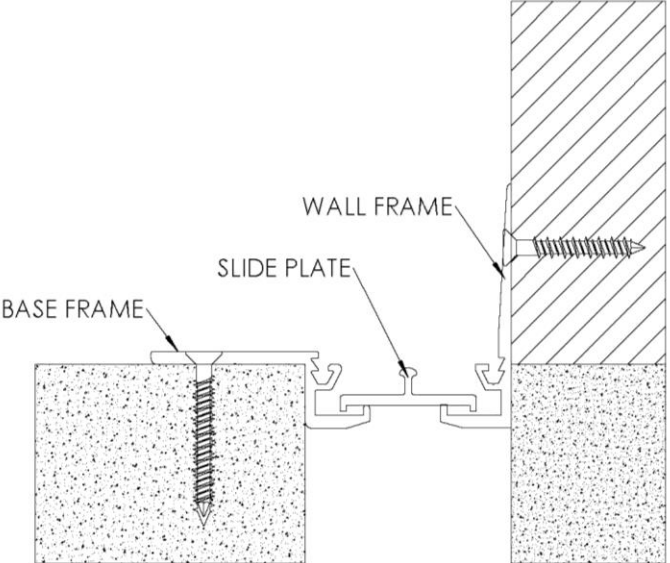

FIGURE 3
- 3. Place slide plate (not required on 1” joint sizes) in the lower channel of the base frame and wall frame with the bent ends of the plate pointing downwards. **See Figure 3**